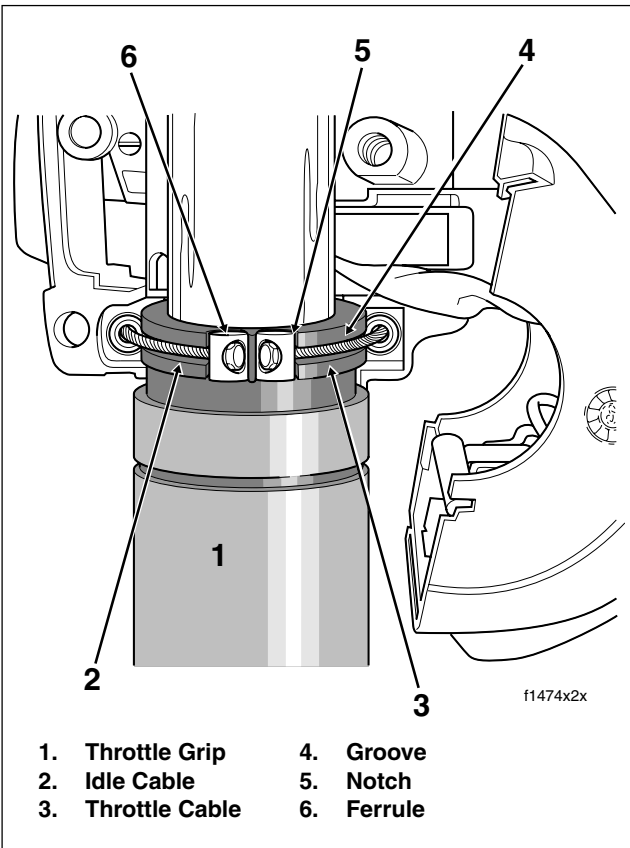

Figure 8-90. Install Throttle/Idle Cables
5. Position the lower switch housing beneath the throttle control grip. Install the brass ferrules onto the cables so that the end fittings seat in the ferrule recess. Seat the ferrules in their respective notches on the throttle control grip. Verify that the cables are captured in the grooves molded into the grip. See Figure 8-90.